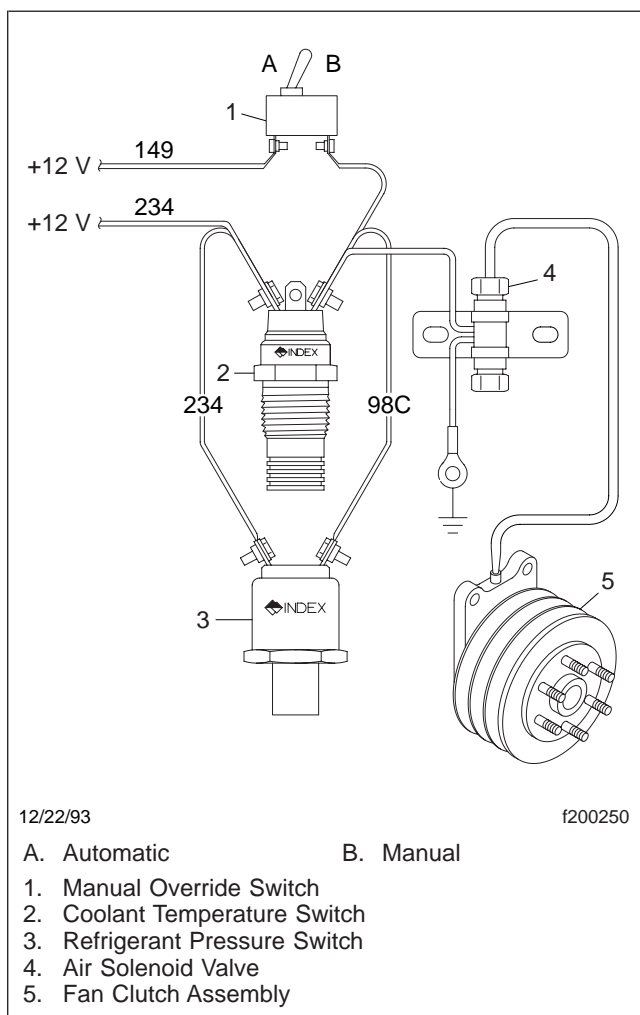
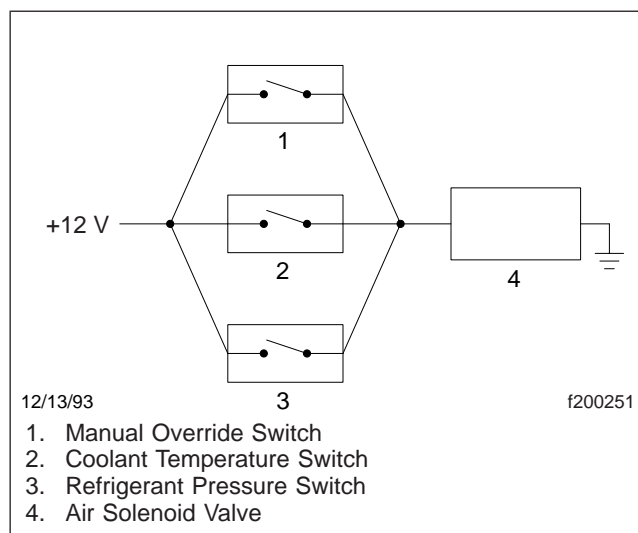

Fig. 1, Fan Control System, Normally Open (NO)
Fig. 2, Normally Open (NO) Electrical Schematic
Troubleshooting a Normally Open (NO) Fan Control System (See Fig. 1 and Fig. 2)